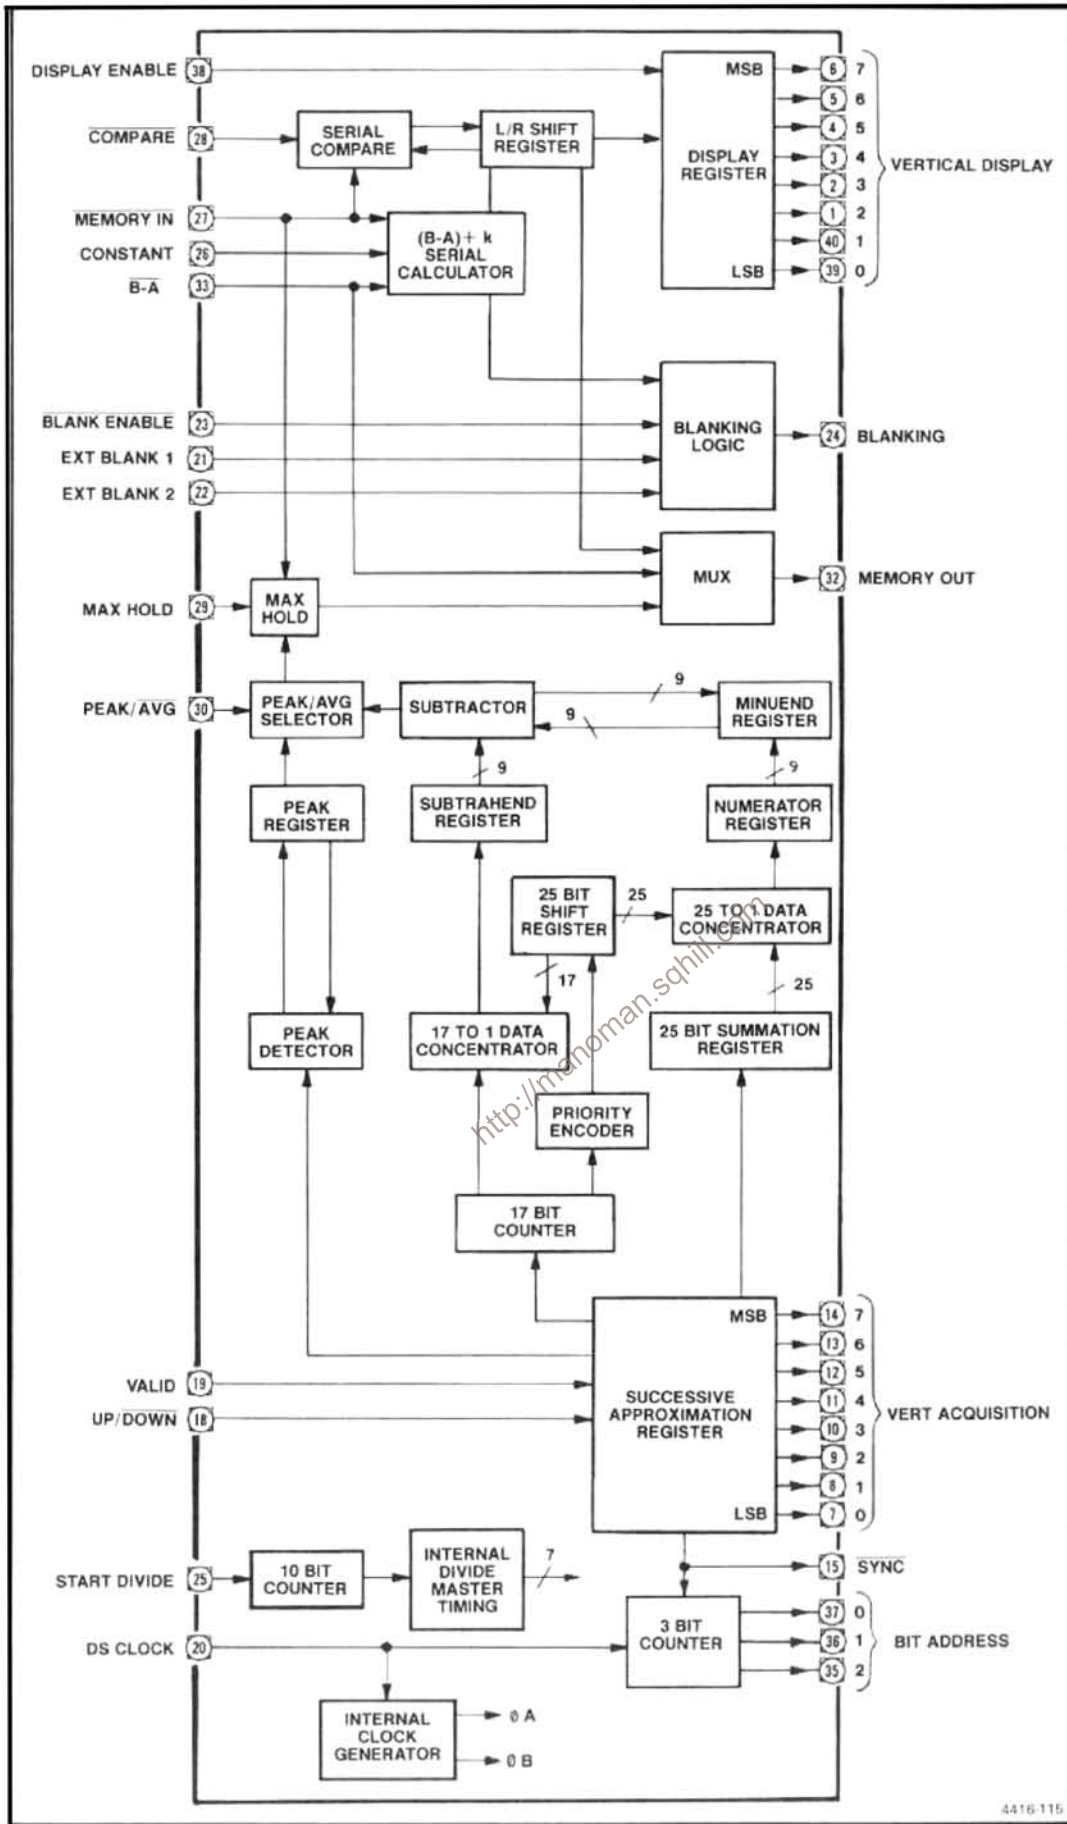

Figure 7-15. Vertical control IC, U1023, block diagram.
Vertical Control IC block diagram is shown in Figure 7-15. The vertical analog voltage is converted to a Y binary value by an 8-bit successive approximation register. Nine clock cycles are required for each Y conversion. After the conversion has taken place, the successive approximation register produces the negative-going SYNC signal. Most functions on both the vertical and horizontal control ICs are synchronized by this signal. On the negative-going transition of SYNC, the successive approximation register is reset to 10 00 00 00 (binary) and the next conversion cycle begins. Incoming data bits are latched into the register on the negative-going clock transition. From the register, the output data is applied to the peak and the averaging circuits.
A division cycle is initiated when horizontal control IC U2035 detects a change in the X value. At that time it generates the ST DIV (start divide) signal. Upon receipt of this signal, and in synchronization with the SYNC signal, vertical control IC U1023 performs five functions (refer to Figure 7-15).
1. U1023 latches the current numerator in a 25-bit latch (25-to-1 data concentrator in Figure 7-15) and latches the denominator in a 17-bit latch (17-to-1 data concentrator).
2. U1023 clears the numerator adder circuits (25-bit summation register in Figure 7-15).
4. U1023 loads the latched numerator and denominator serially into the divide circuit (subtractor in Figure 7-15) using the contents of the 25-bit shift register as a mask.
All data enters and leaves the memory serially. Data read from memory enters an 8-bit shift register and, timed by the SYNC signal, is transferred to the vertical display output latch (display register on Figure 7-15). The same shift register is used for other purposes, so the DSPL EN (display enable) signal prevents non-display information from being